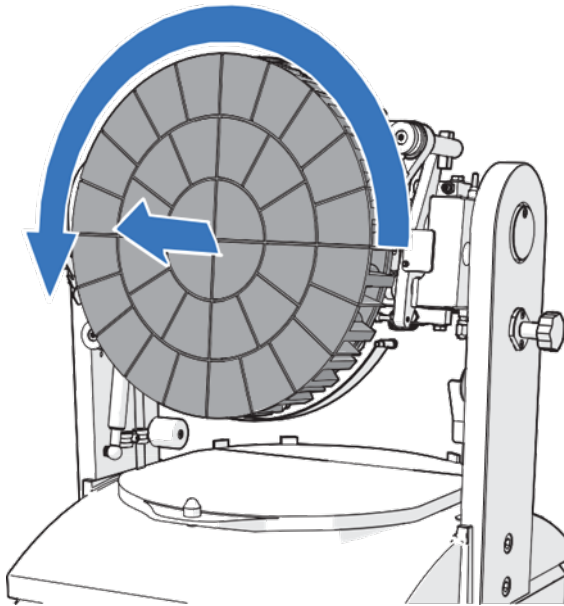

Figure 14 Turn the dividing disc
15. Turn the dividing disc anticlockwise. See Figure 14.